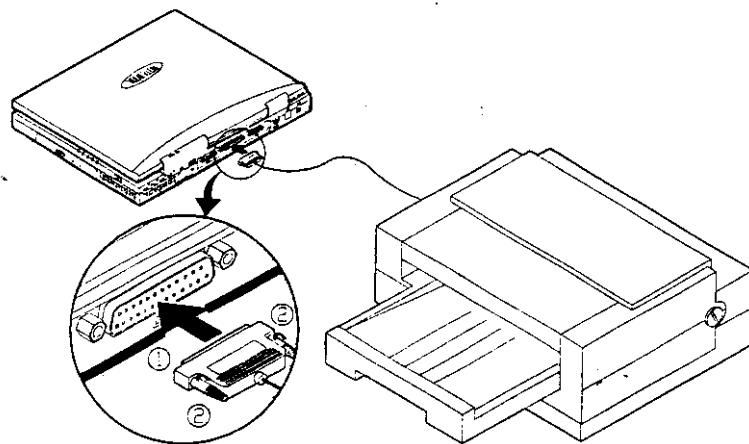

Figure 2-23
3. Tighten the screws that fasten the cable to the parallel port (Figure 2-23).